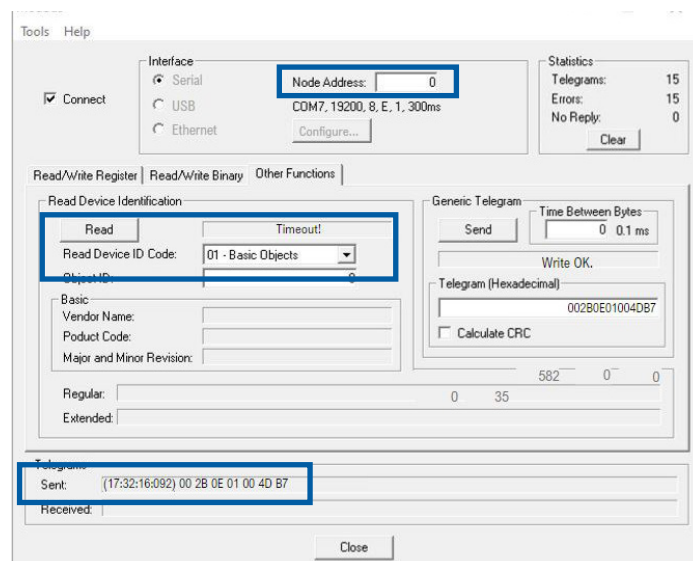

Figure 14 - Modbus communication fail
■ **Step 3:** Obtain the current Modbus address, please refer Figure 14. Input the broadcast address 0, Select “Other function”, read device ID (01-Basic Objects) or directly send “00 2B 0E 01 00 4D B7”. When the ECM Motor received the request, the LED1 on the PCBA will flash address count.